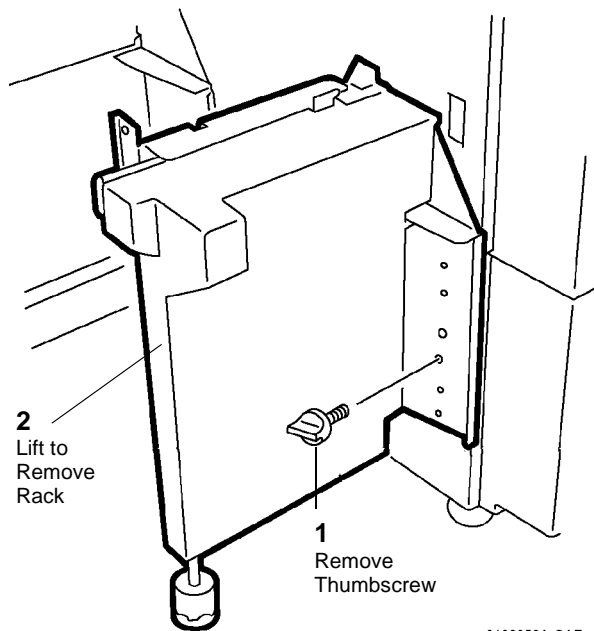

Figure 3 Removing Rear Rack
4. Remove Rear Rack (Figure 3).